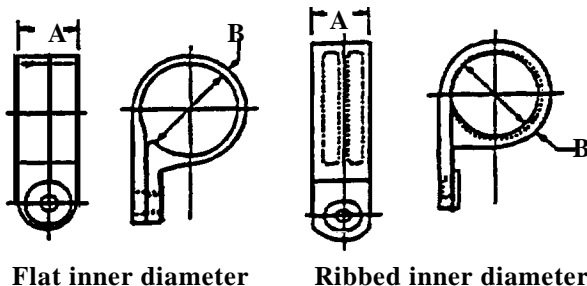

Figure 25. SAE-AS25281 Clamp
c. - F: One digit code indicating whether the clamp has a flat center surface (-F) or has ribs (-R) (Figure 25).